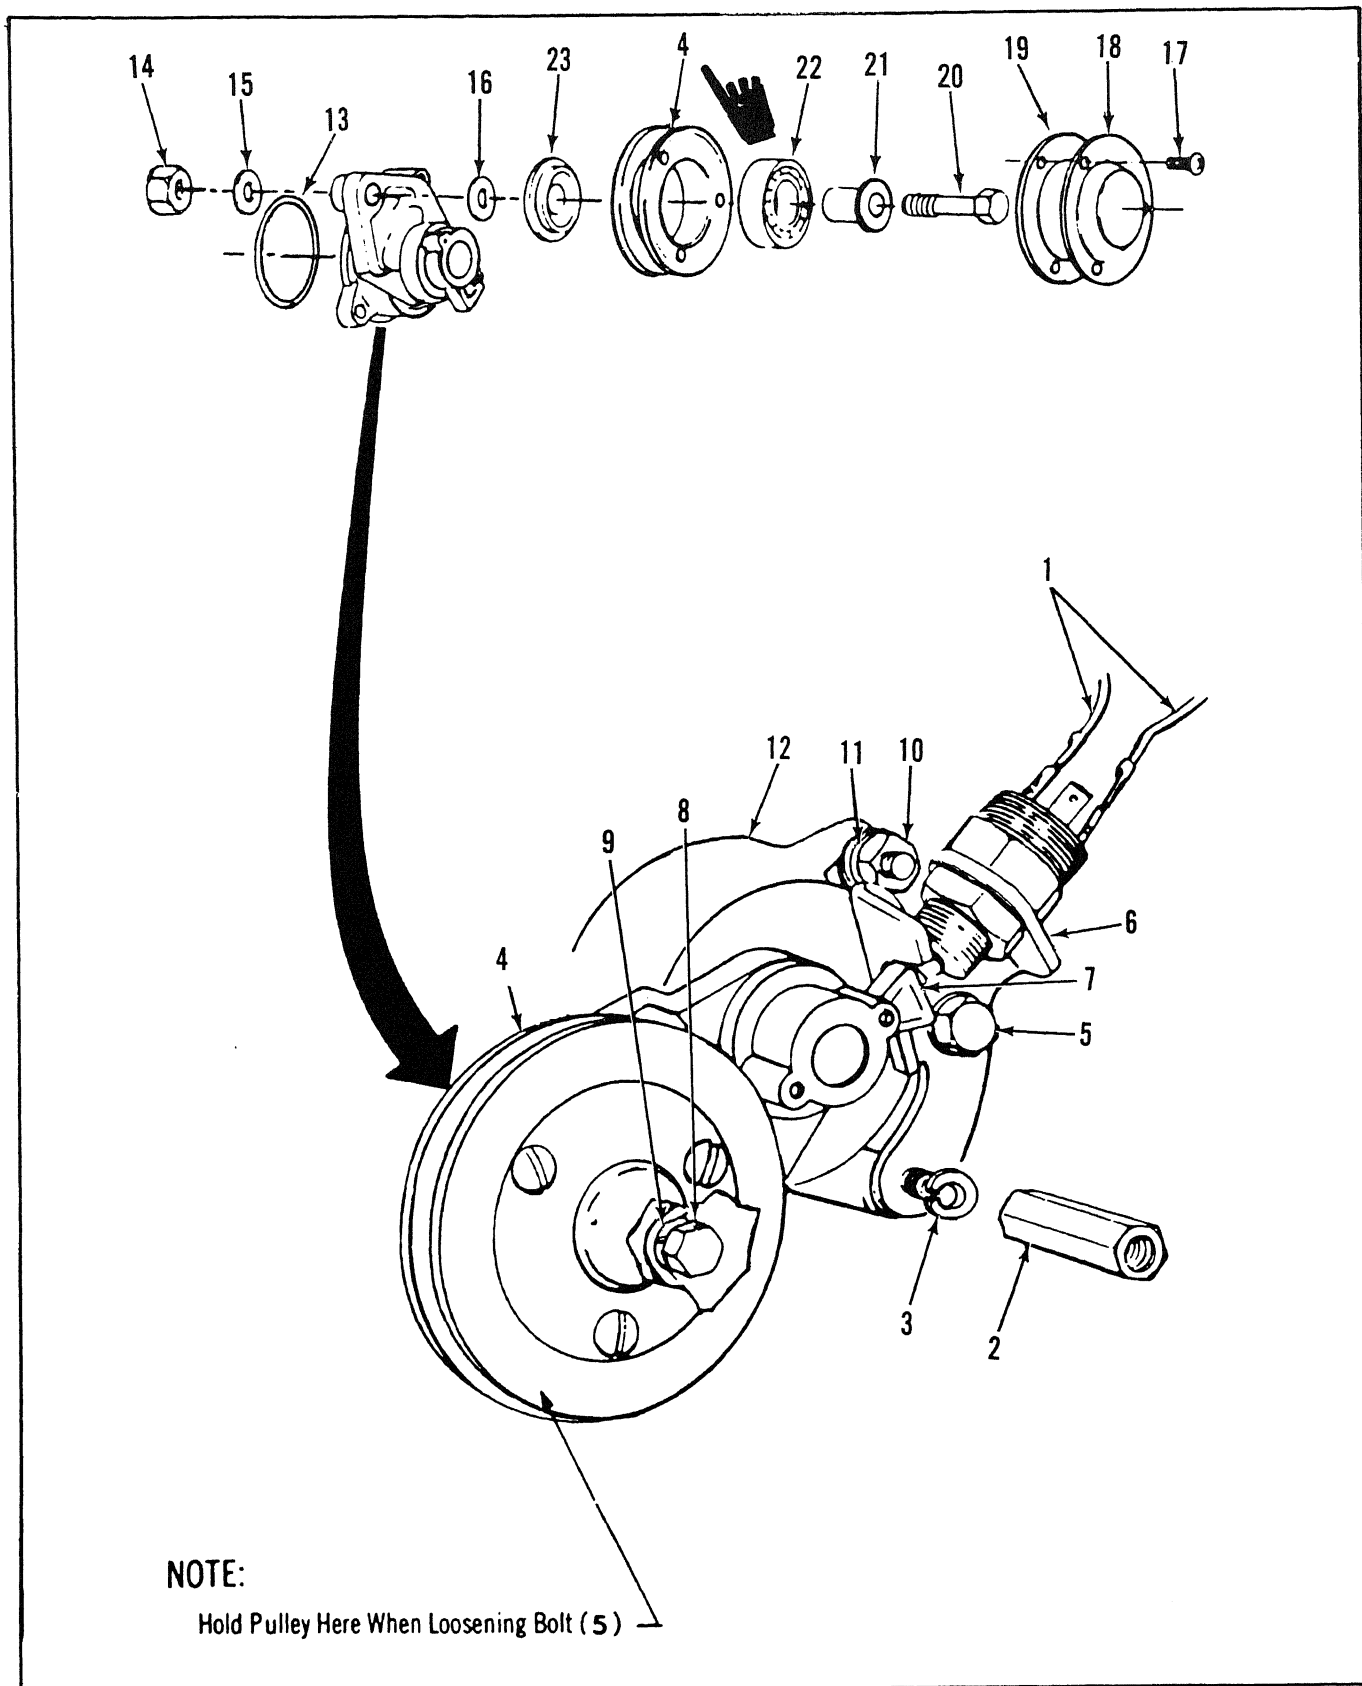

Figure 4-57. Idler Pulley Assembly, Removal/Installation.
- (2) Tag and disconnect V-belt contact switch wires (1, fig. 4-57).
- (3) Loosen spacer (2).
- (4) Hold pulley (4) as shown and loosen bolt (5) until the contact switch bracket (6) can be moved to disengage idler lever (7) release pulley.
- (5) Remove bolt (8), washer (9), spacer (2), washer (3), nut (10), washer (11) and idler pulley assembly (12).
- (1) Remove and replace o-ring seal (13, fig. 4-57).
- (2) Remove nut (14), washer (15) and washer (16).
- (3) Remove screws (17), cover (18) and gasket (19).
- (4) Remove bolt (20), bushing (21), bearing (22) and ring (23) from pulley (4).
- (1) Reassemble ring (23, fig. 4-57), bearing (22), bushing (21) and bolt (20) in pulley (4).
- (2) Install gasket (19), cover (18) and screws (17).
- (3) Install washer (16), washer (15), nut (14), and o-ring seal (13).
- (1) Position idler pulley assembly (12, fig. 4-57) in place on engine and install washer (11) nut (10), washer (9), bolt(8), washer (3) and spacer (2). Do not fully tighten spacer (2).